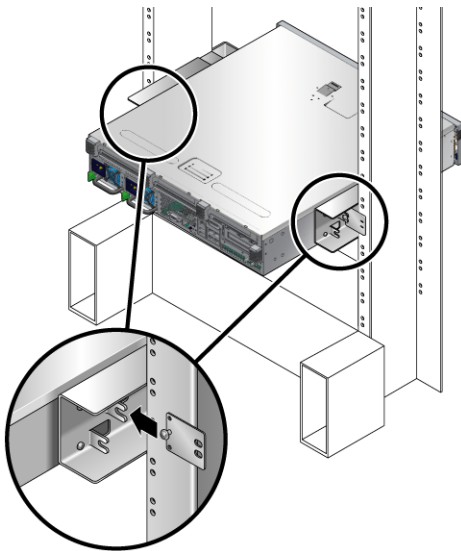

FIGURE 4-6 Installing the Rear Plate to the Side Bracket
The screw head should be facing the rear of the server and the other side of the rear plate should be in front of the rack post (FIGURE 4-6).
- c. Tighten the screw to secure the rear plate to the eyelet on the side bracket (FIGURE 4-6).